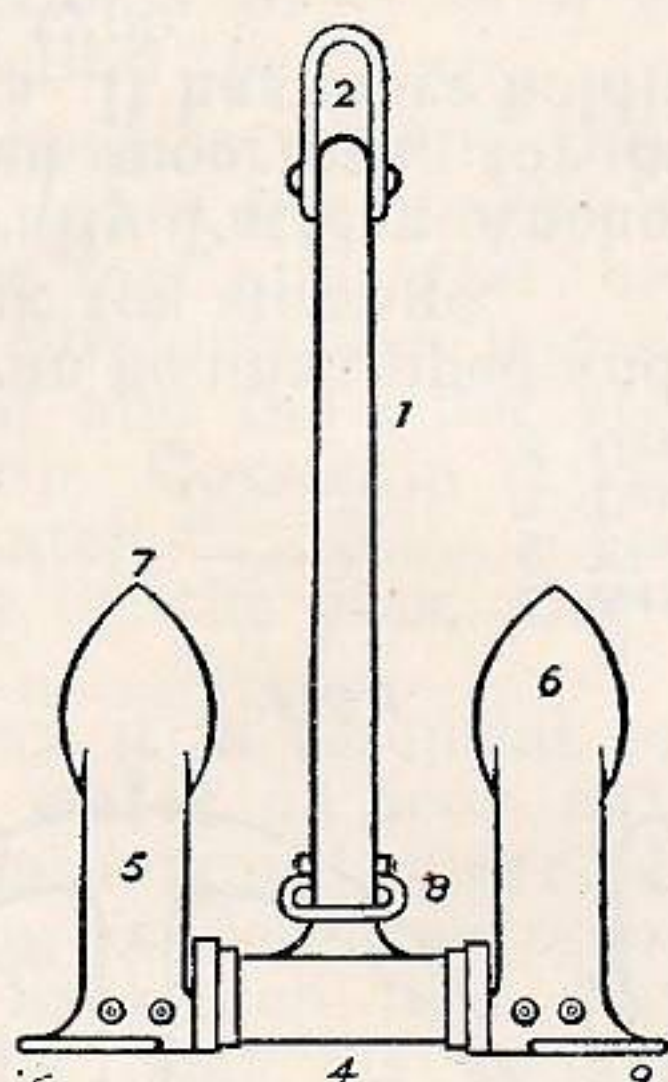

FIG. 2
### (2) STOCKLESS (See Fig. 2)